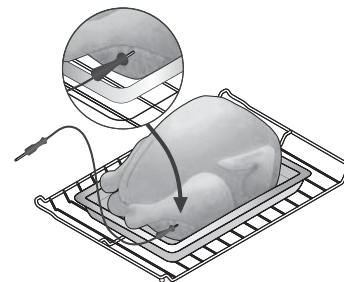

Figure 29: Probe in thickest part of thigh
- For whole poultry or turkey, fully insert the probe sensor into the thickest part of inner thigh, just below the leg (See Figure 29).